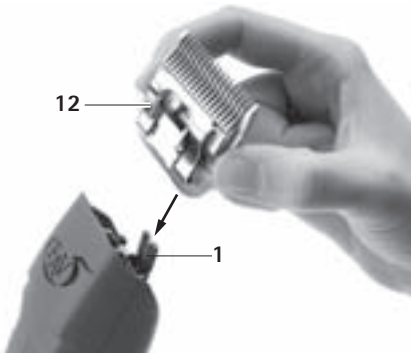

Fig. 2
- Install shearing head 12 on open hinge 1, see Fig. 2.